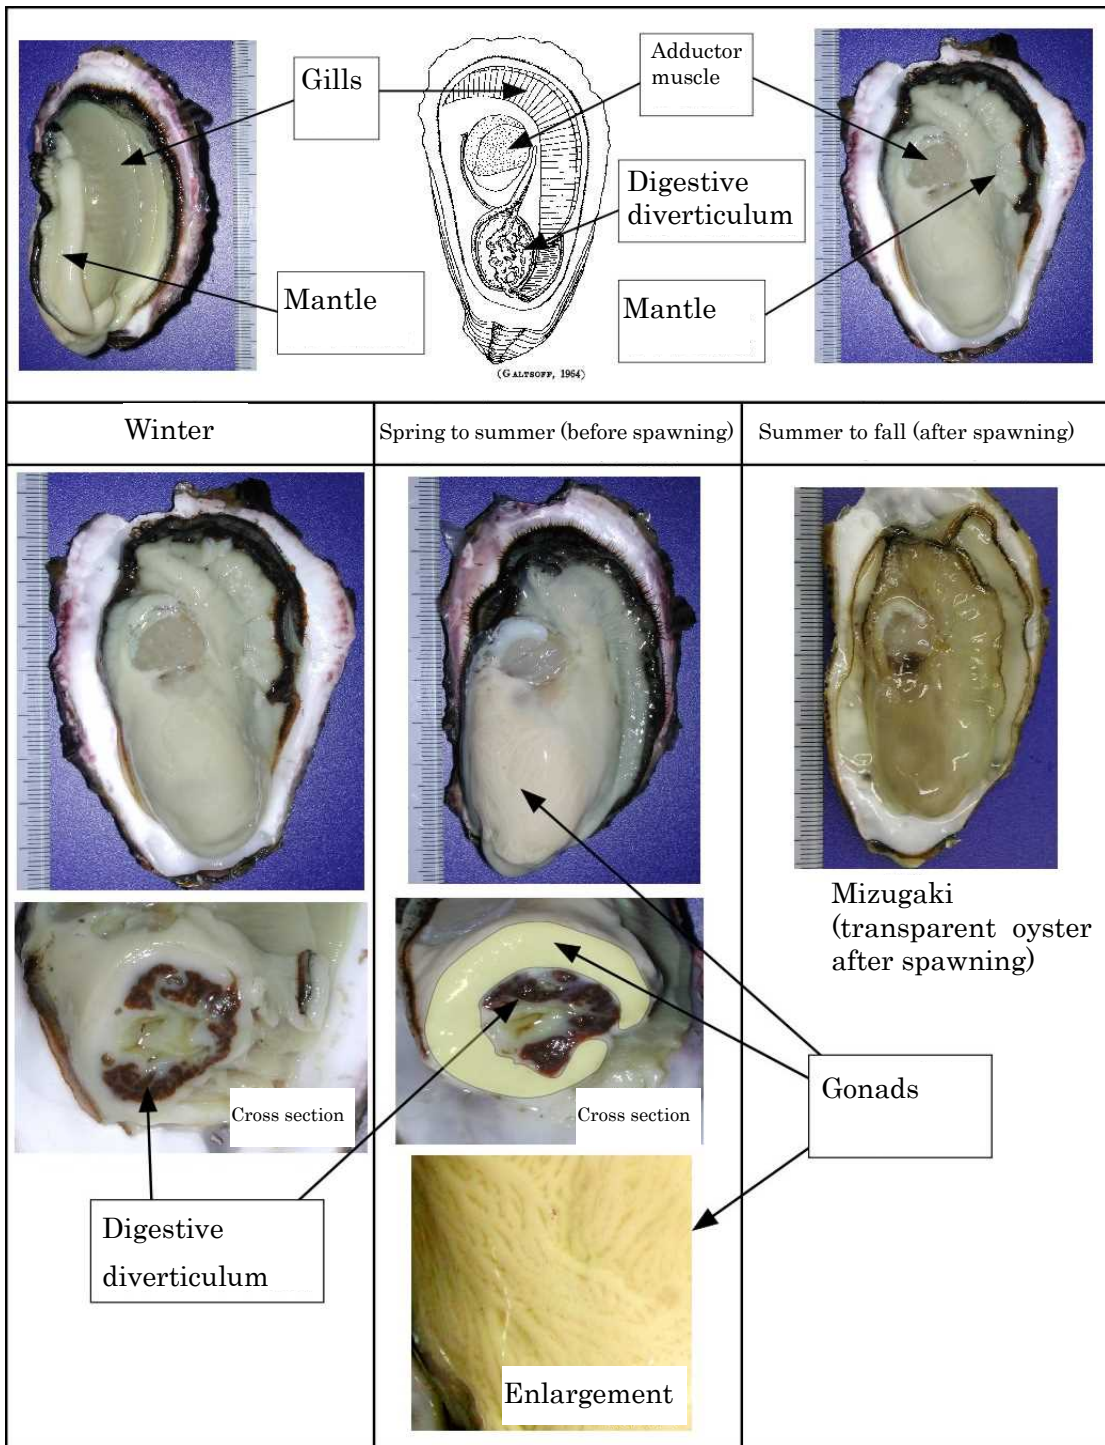

Figure 7: Oyster interior
4. Oyster Interior (Figs. 7, 8)